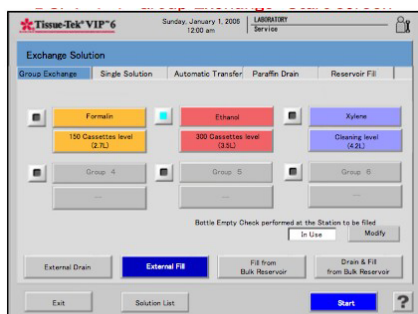

Figure 3-UUU
- The Exchange Solution screen displays (Figure 3-UUU).